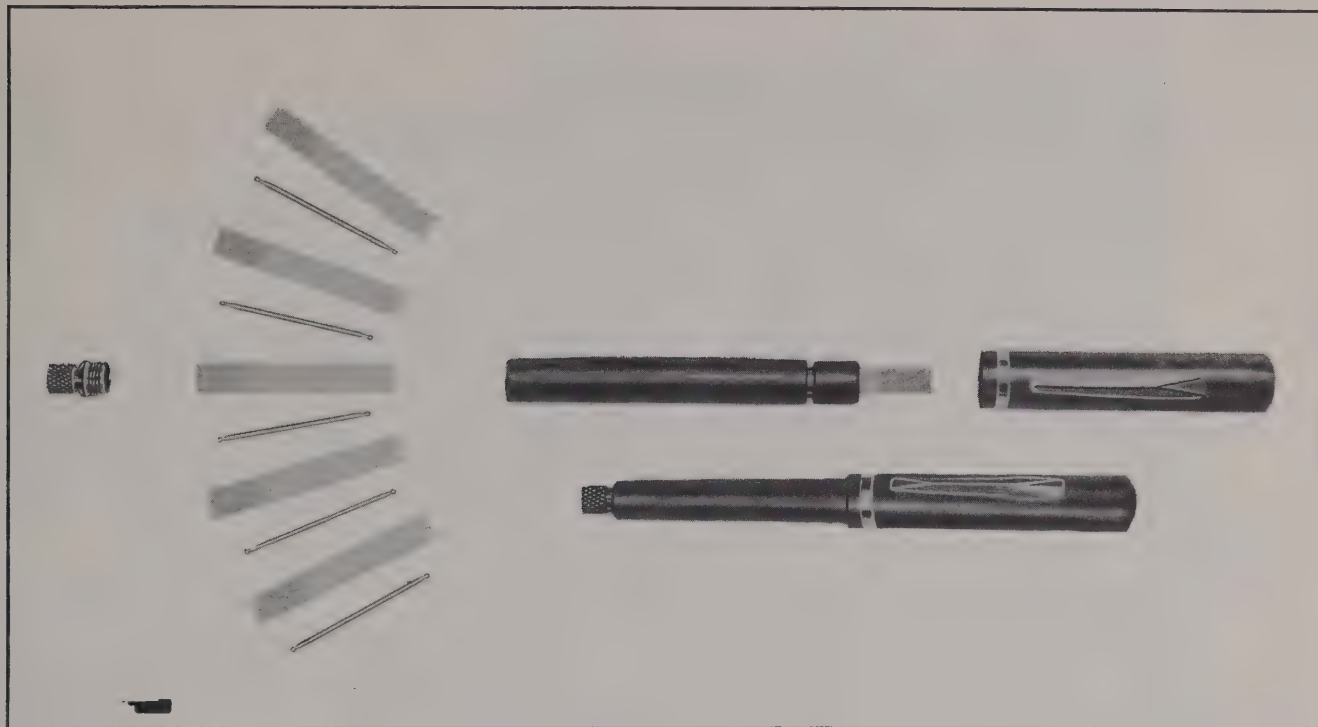

Figure 1-14. Relay Burnishing Tool—Open and Closed
(4) The relay contact burnisher is contained in a bakelite case with a pocket clip. Six steel blades and six steel picks are provided relay contact maintenance. One end of the case has an adjustable chuck for holding the burnishing blades and picks. (See fig. 1-14.)